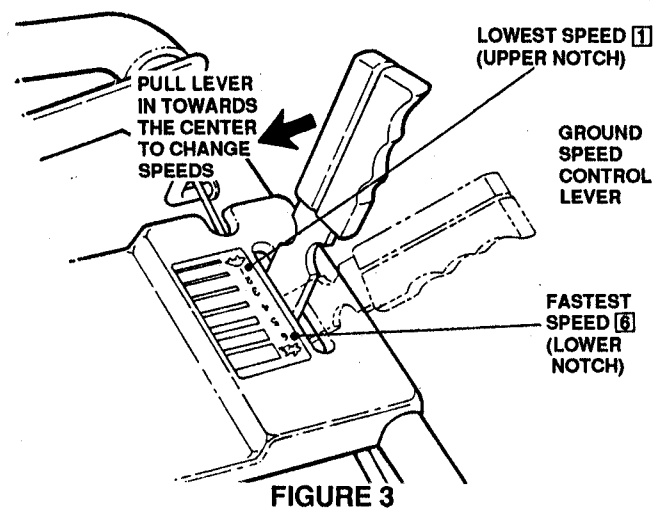

FIGURE 3
The mower has six (6) forward speeds. The GROUND SPEED CONTROL lever is pushed in towards the center and moved to the front or rear to select the desired speed. See Figure 3.